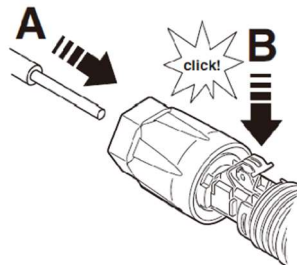

Figure 5-8
4. Carefully insert the stripped wire with twisted conductors all the way in (Figure 5-8, A). The litz wire ends have to be visible in the spring.
5. Close the spring. Make sure that the spring is snapped in (Figure 5-8, B).